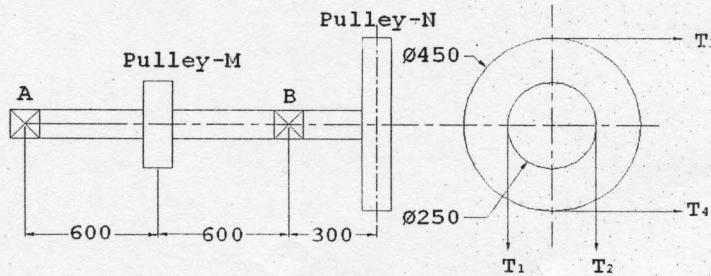

Fig.3
Q.5 Two pulleys M and N are supported on a line shaft as shown in figure 3. The [10] pulleys are keyed to the shaft. Power is supplied to the shaft by means of a vertical belt on pulley M, which is then transmitted to pulley N carrying a horizontal belt. The pulley belt on pulley M is subjected to tight side and slack side tension of 3000 N and 1000 N respectively. The ratio of belt tensions on tight and slack sides is 3:1 for both pulley belt. The shaft is made of 40NiCr 1Mo15 having ultimate tensile strength and yield point tensile strength 780 MPa and 580 MPa respectively. Taking the values of $K_b = 1.5$ and $K_t = 1.2$, determine the shaft diameter according to A.S.M.E. code.